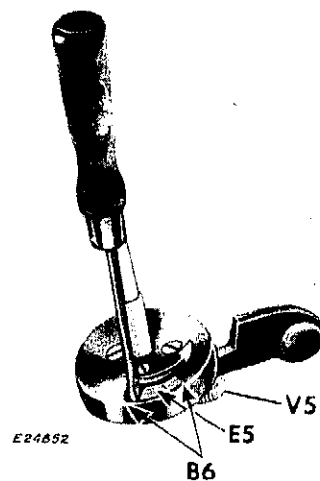

Fig. 139. Screwdriver in Recess behind Stop-Shoe
13. Using a narrow screwdriver, slide the stop-shoe **B6** back against its spring **A6** (counter-clockwise) until screwdriver drops down into recess behind stop-shoe, as shown in **Fig. 139**.
16. With screwdriver still in recess at **E5**, move stop-shoe **B6** back against its spring as far as it will go. Then securely tighten bight limit screw **V5**, **Fig. 139**.